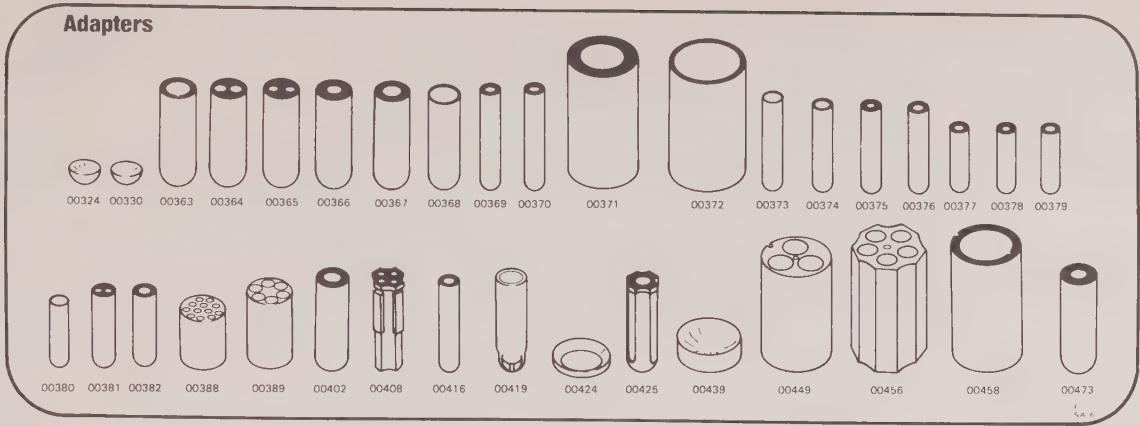

Figure 1-5. Adapters
a. For Use in Rotor (Adapter) — Lists the rotor or rotors which will accept that tube or bottle. If an adapter is required to permit the rotor to accept the desired tube or bottle, a key number will follow the rotor initials in parentheses. Table 1-6, Adapters, lists the adapters by key number and provides part numbers and descriptions. Table 1-6 is keyed by part number to figure 1-5 which illustrates the adapters listed.